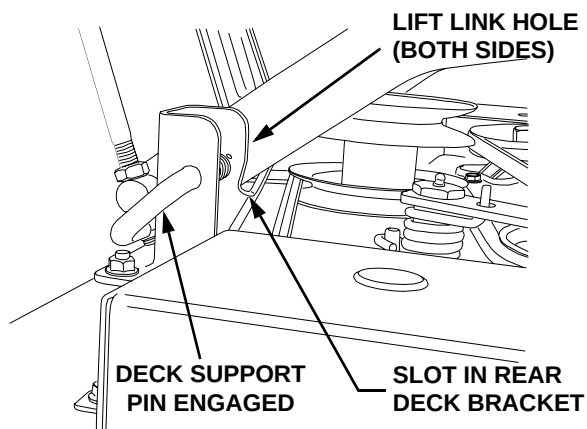

Figure 6-23
7. Carefully guide the tractor implement lift links (left and right) into the rear deck bracket slots (left and right) as the tractor implement lift handle is lowered to its lowest setting (Refer to Figure 6-23).
8. Pull both deck support pins outward and rotate rearward to disengage the outer surface to the rear deck brackets. Release the pins, making certain each deck support pin passes through the inner hole of the rear deck bracket. The spring tension will push the pins inward and, if aligned, through the hole in each implement lift link (See Figure 6-23).